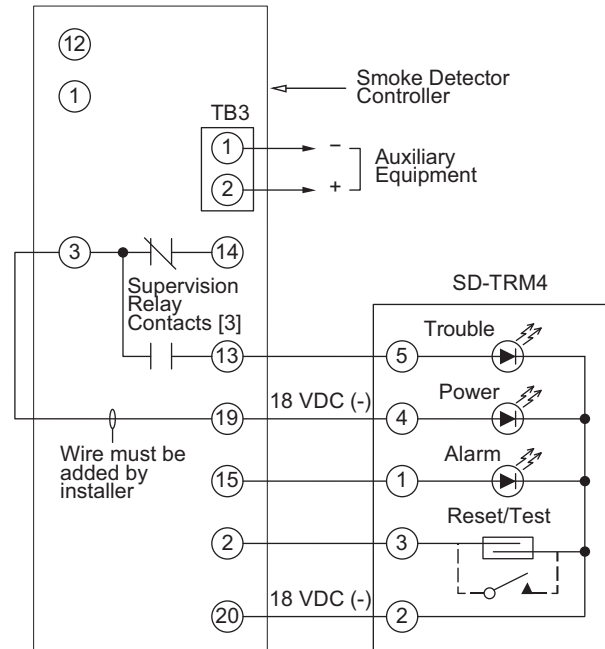

Fig. 47 — Remote Test/Reset Station Connections
The test/reset station dirty sensor test checks the test/reset station's ability to initiate a sensor dirty test and indicate the results. It must be wired to the controller as shown in Fig. 47 and configured to operate the controller's supervision relay. For more information, see "Dirty Sensor Test" on page 25.
1. Verify that the remote test/station is wired as shown in Fig. 47. Repair or replace loose or missing wiring.